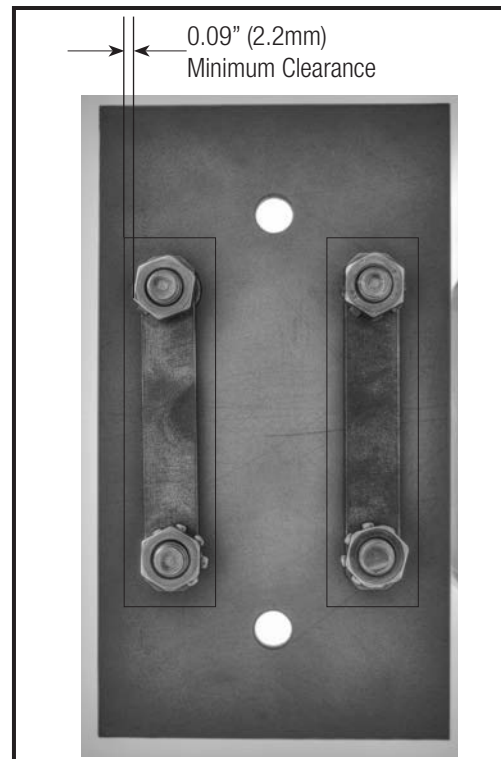

Figure 6-2 Bottom of Base Plate Showing Minimum Clearance
4. For 60Vdc (25Vac) service, per IEC 60664-1 (UL 840), pollution degree 3, a minimum clearance and creepage distance of 2.2mm (0.09in) must be maintained between each phase, and phase to ground. See **Figure 6-2**.